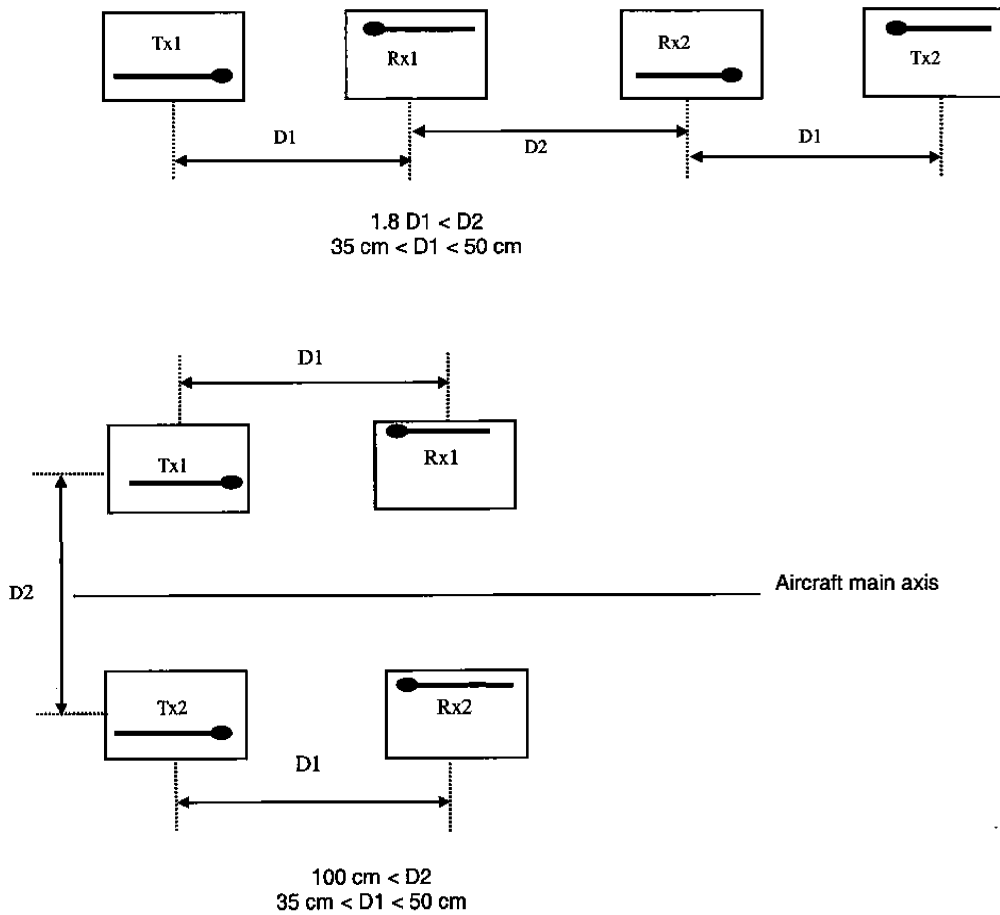

Figure 201 – ANT-140A – ANTENNAE SEPARATION AND ORIENTATION
- The distance between antennae should be the following (see Figure 201).